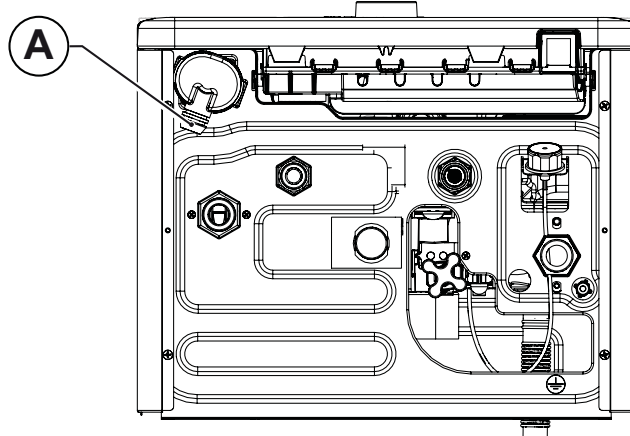

Fig. 22 Condensate drain
Condensate drain system must be connected to specific fitting (A) in the boiler (see Fig. 22 Condensate drain).